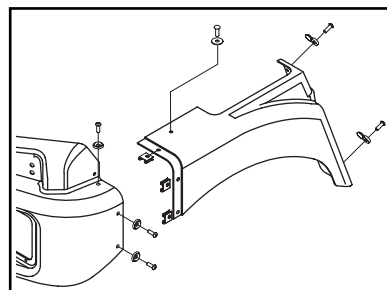

Figure 6
There are two front fenders (Figure 6) to catch debris thrown by the tires. The fenders are supported by the grill assembly.
1. While supporting the fender remove two button head screws, lock washers and hex nuts from the rear of the fender (Figure 6).